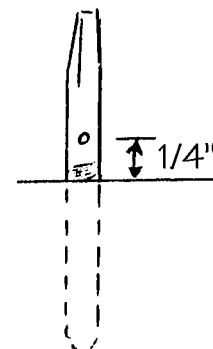

FIG. 17
- 24. The 66 holes in the two outer rows on each side of the box (34 on one side and 32 on the other) are for the TUNING PINS. Insert these pins THREADED END FIRST into the holes using a hammer to tap them until they stand about 1 inch tall. The hole in the TUNING PIN should be about 1/4" above the SOUNDBOARD. (fig. 17) Note that they are threaded, so they drive themselves deeper as you turn them to wind wire around them.